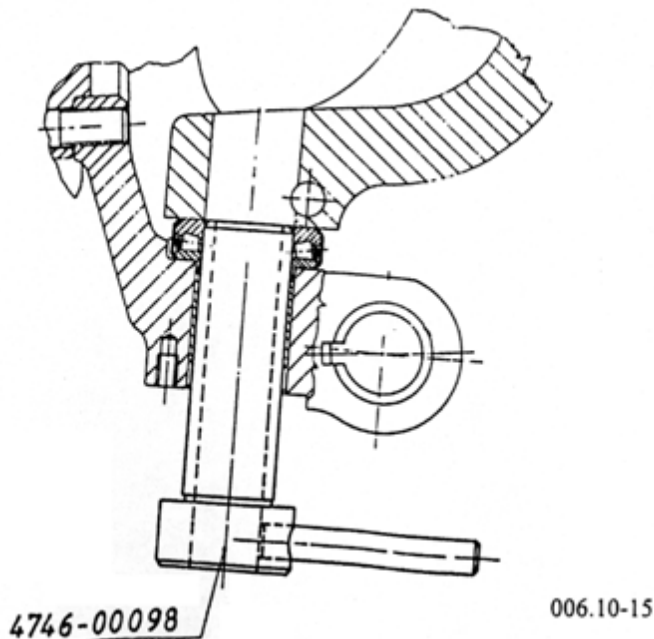

Fig. 2.: ASSEMBLING THE AXIAL BEARING OF THE LOWER KNUCKLE PIN
By means of the mandrel shown secure the axial bearing (66) until pulling off the steering knuckle (Fig. 2.).